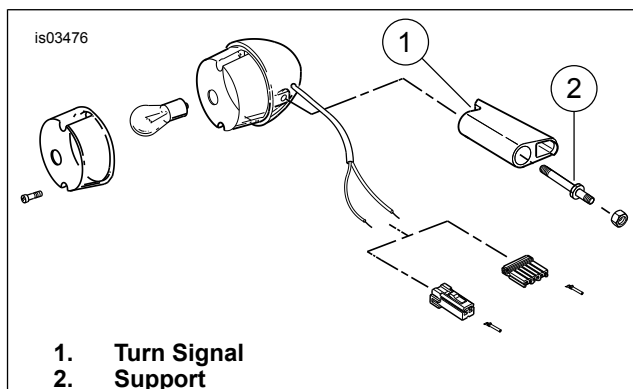

Figure 2. Rear Turn Signal (Typical Airfoil Style Support)
2. See Figure 2. Remove left and right turn signals from supports and discard. Save mounting hardware for installation.
6. See Figure 2. Install support stud through strut cover using hardware removed in Step 2.